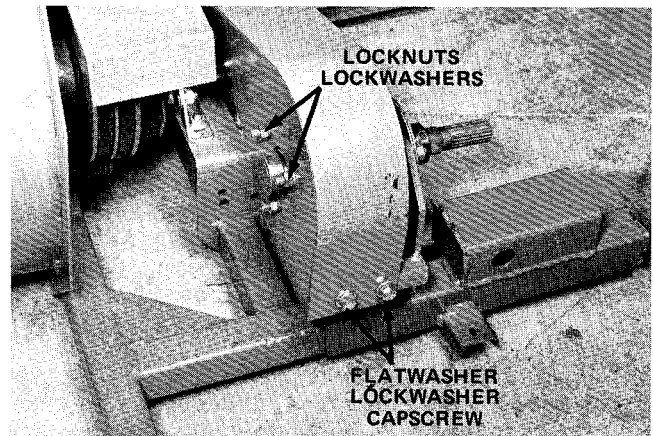

Figure 4
4. Install belt shield (Fig. 4).